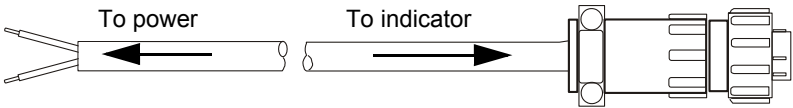

Figure 3.9 Power Connector, Battery Cable
9. Tighten the AMP connector on the underside of the indicator. See figure 3.9.